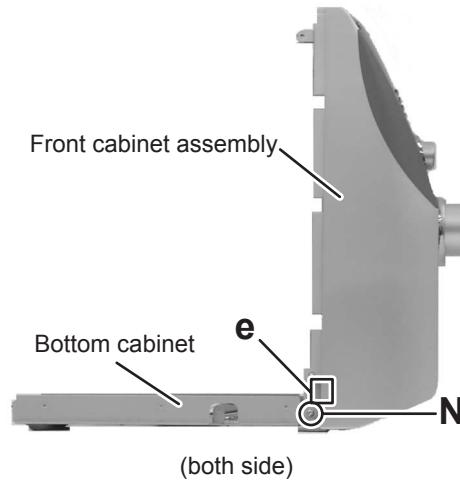

Fig.13
- (2) From the both side of the main body, remove the two screws **N** attaching the front cabinet assembly. (See Fig.13)
- (3) From the both and bottom side of the main body, disengage the two hooks **e** and one hook **f** and remove the front cabinet assembly from the main body in the direction of the arrow. (See Fig.13, 14)